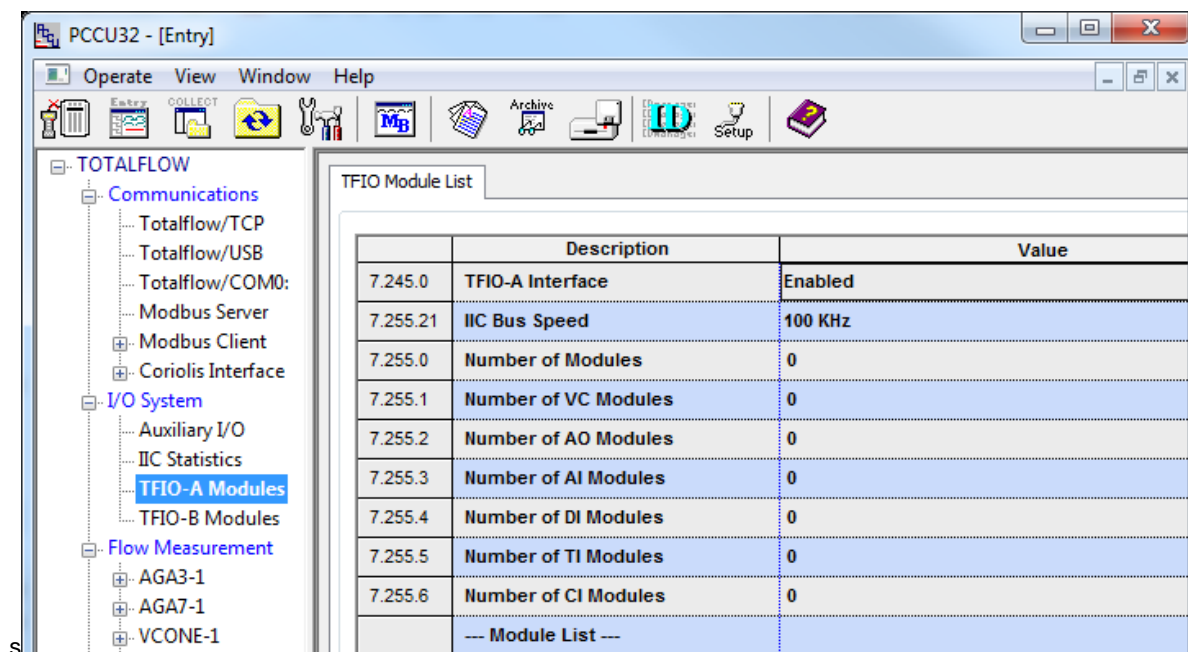

Figure 45: TFIO A configuration
1. On the navigation tree under the I/O System, click TFIO-A Modules or TFIO-B Modules (Figure 45).